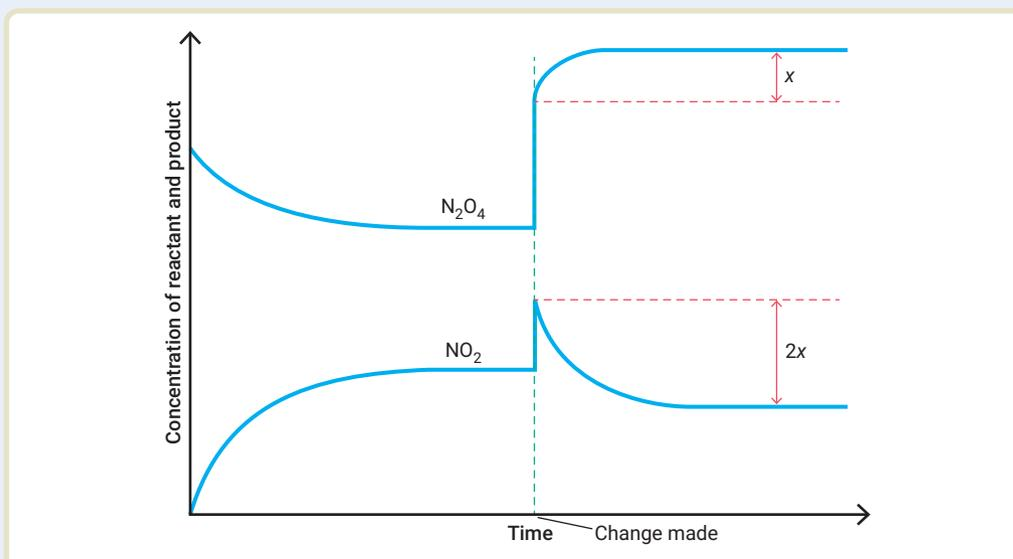

FIGURE 2.4.4 The concentration of the reactant and product for the reaction $\text{N}_2\text{O}_4(\text{g}) \rightleftharpoons 2\text{NO}_2(\text{g})$
- 5 The graph in **Figure 2.4.4** shows the concentration of the reactant and product for the reaction: